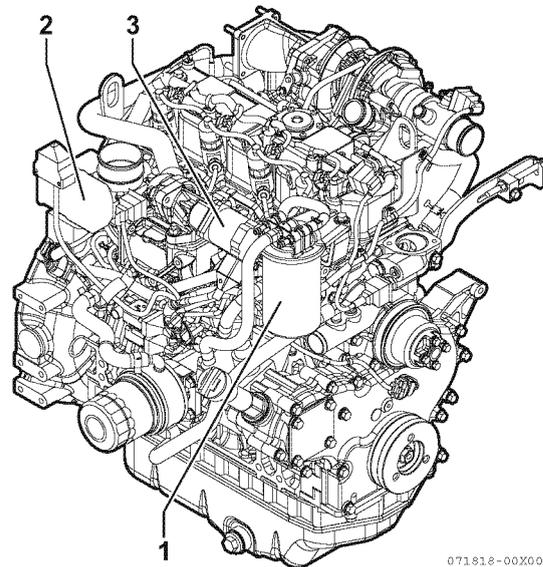

Figure 6-5
- If the fuel filter assembly (1, **Figure 6-5**) is attached to the intake manifold, either remove the filter bracket by removing the fuel pipe from the fuel filter, or leave the fuel pipe and remove the fuel filter assembly, and put it aside to the engine side.
- If necessary, remove the intake throttle (2, **Figure 6-5**) on the intake manifold, and the EGR valve (3, **Figure 6-5**) (Dispose all the gaskets.).